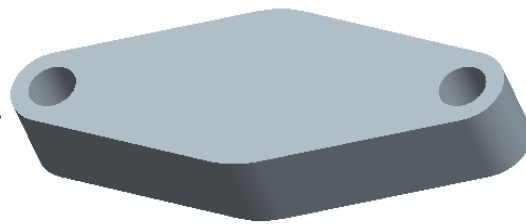

Figure 3-40 Solid model of the sketch
1. One of the advantages of nesting of sketches is that the number of features used to create a model is reduced. In Figure 3-40, the model has two features. The base feature is the base plate and the second feature are the holes. But, when you nest the two sketches to create the model, you are using only one feature to create the model.